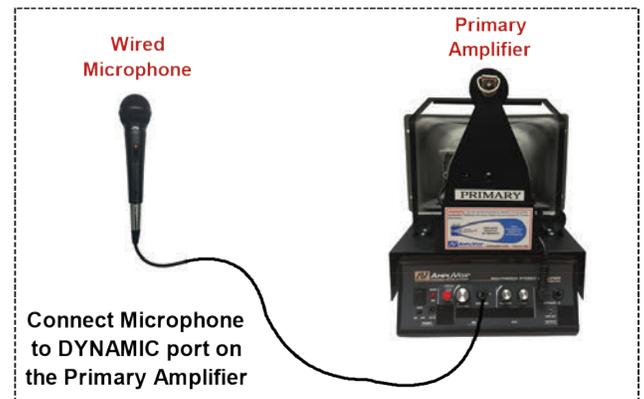

Figure 2
3. Wired microphone option (*See Figure 2*)